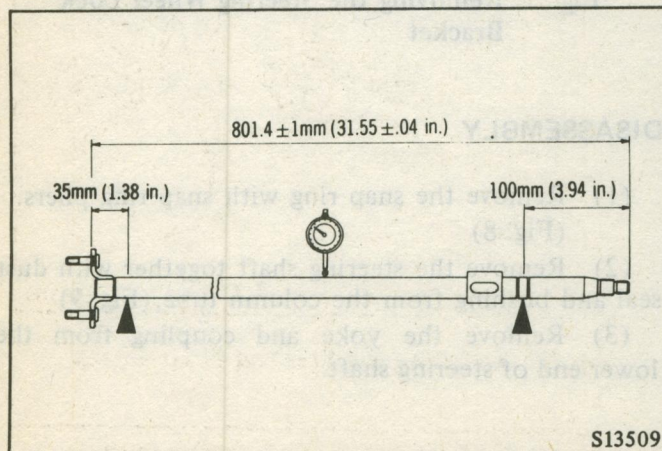

Fig. 10 Checking the Steering Shaft
(1) Check the length of steering shaft. Also check for distortion. Replace the shaft if defective. (Fig. 10)